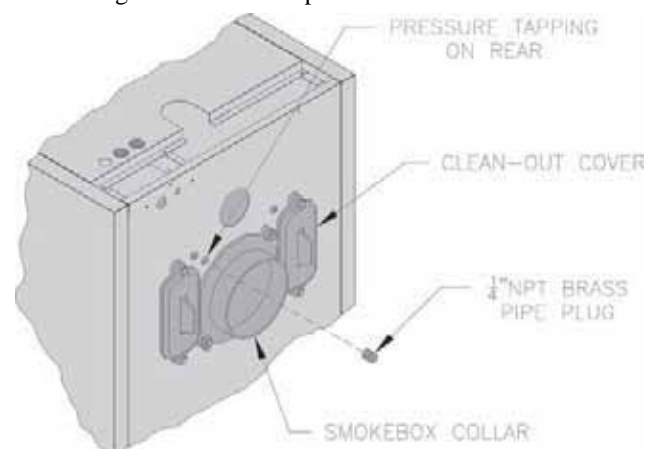

Figure 23: Smokebox Pressure Tapping for Checking Draft at Breech
2. Minimum Draft at Breech (Canopy) – The draft induced by a chimney must create at least a pressure of 0 (zero) inches water column (“ w.c.”) at the pressure tapping on the canopy mounted on rear of boiler (see Figure 23). The pressure at the canopy **cannot** be positive since this could create a condition that allows flue gas by-products to escape from the draft regulator. A negative pressure reading up to -.03 inches water column is acceptable for proper operation. (See Table 6, Burner Specifications at the rear of this manual for more details)